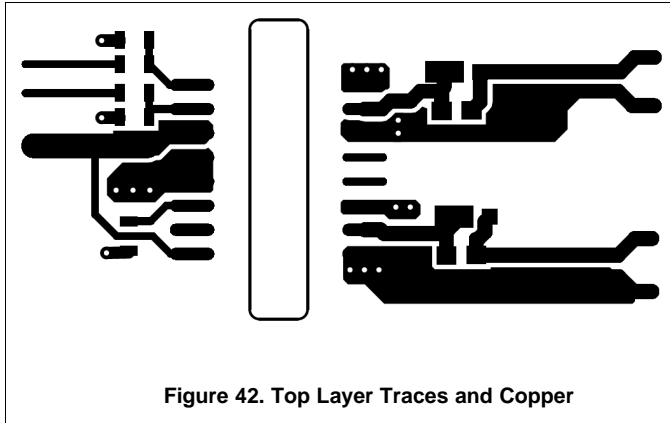
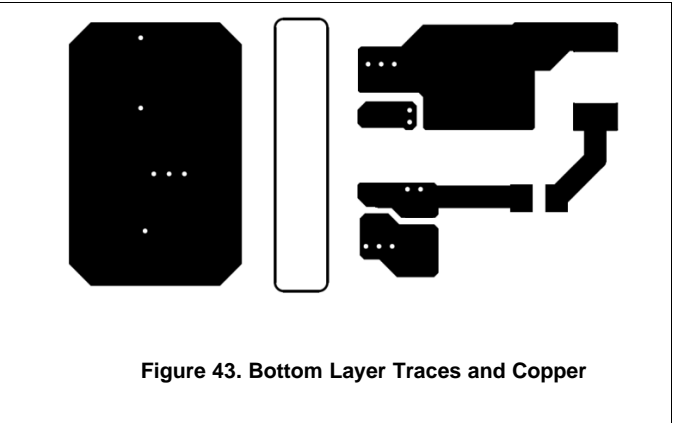

Figure 42. Top Layer Traces and Copper
Figure 43. Bottom Layer Traces and Copper
- Increasing the PCB copper connecting to VDDA, VDDB, VSSA and VSSB pins is recommended (See Figure 42 and Figure 43). However, high voltage PCB considerations mentioned above must be maintained.
Figure 42 and Figure 43 shows top and bottom layer traces and copper.